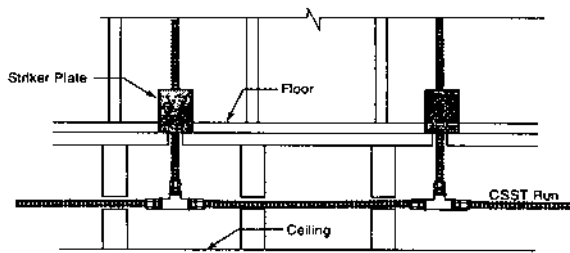

Figure: 4-16 Multiple outlets along main tubing run
- Multiple gas outlets – when multiple outlets are supplied from a single run of piping, each downstream outlet branch can be connected to the main run using a tee fitting which can be located in a concealed location. Figure: 4-16.